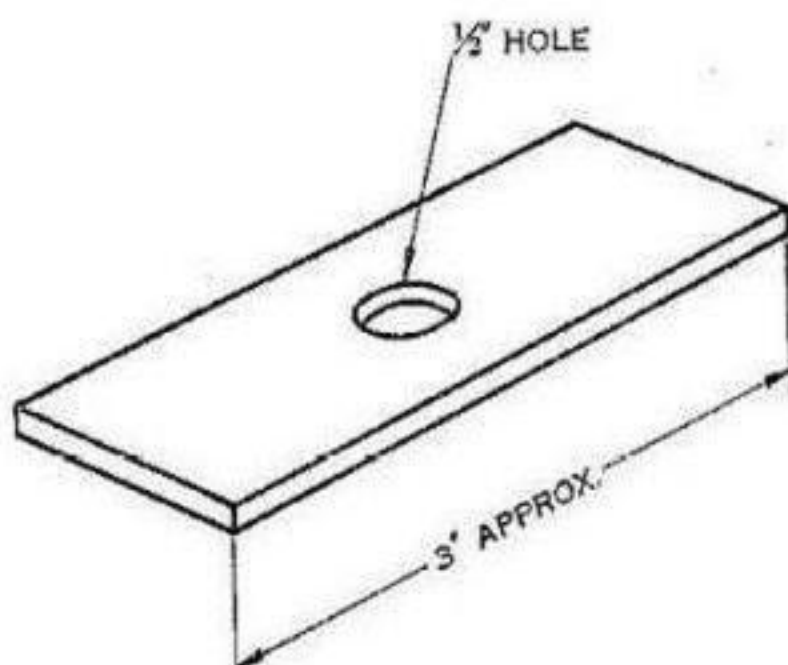

Fig. 2-Proper Way to Make Body Shim
2. Install thicker shim under sill at body bolt. Use brake lining 3" long as per Fig. 2. Upon the thickness of these shims depends satisfactory alignment of doors.